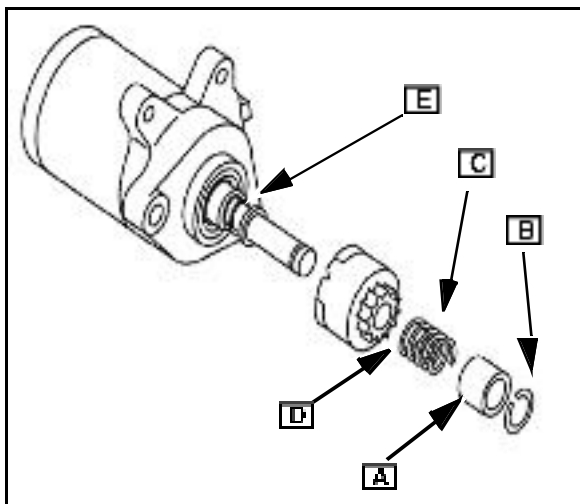

Fig. 38
2. Push down on upper spring retainer (A) to expose retainer ring (B) on shaft.
4. Remove upper spring retainer, spring (C), and pinion gear and clutch ([D] Fig. 38).
1. Inspect the pinion gear and clutch ([D] Fig. 38) for damaged teeth.
Refer to Fig. 38